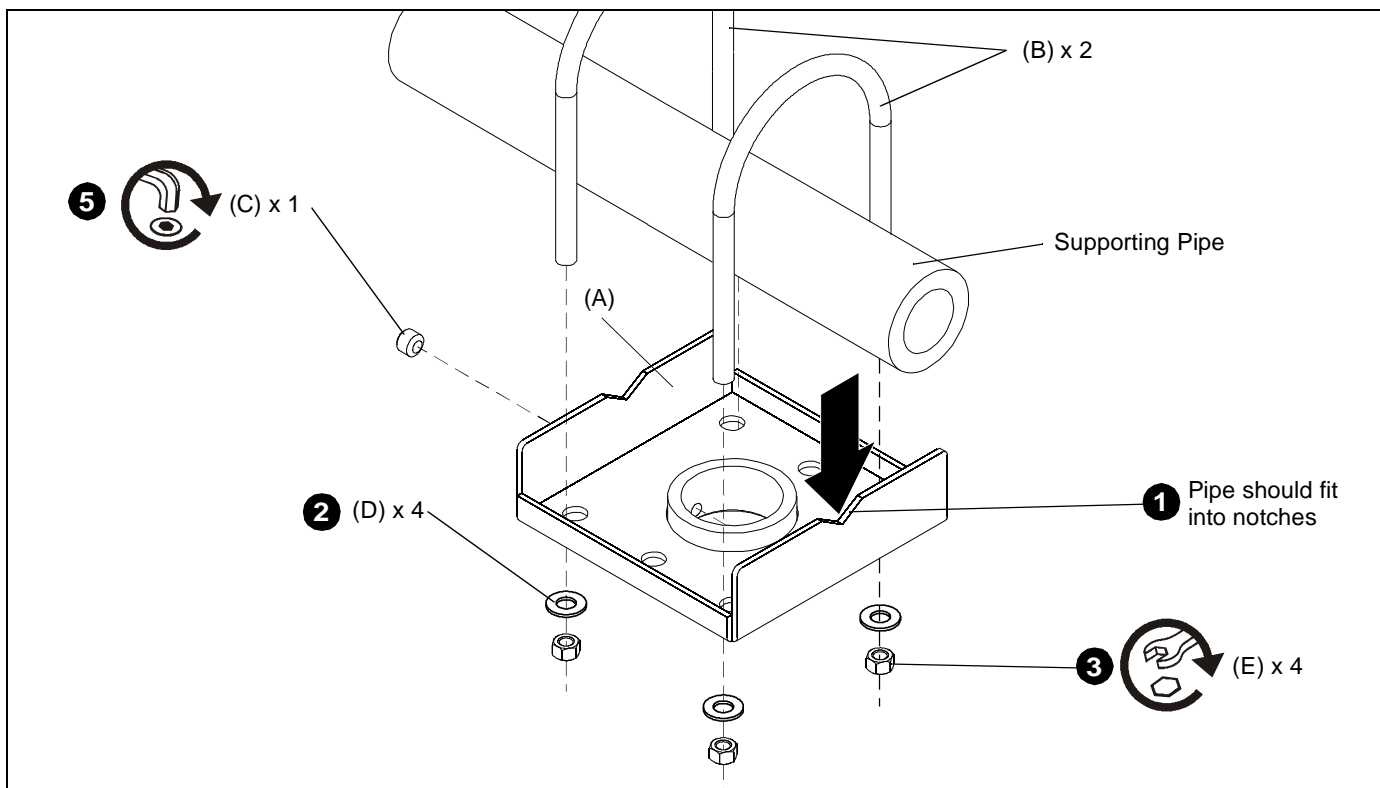

Figure 1
1. Place two U-bolts (B) over supporting truss or pipe and insert through holes in truss plate (A). (See Figure 1)
**NOTE:** If mounting truss plate (A) to pipe, ensure that pipe fits into notches in plate. (See Figure 1)
2. Loosely install 3/8" nuts (E) and 3/8" washers (D).
**NOTE:** The washers (D) are only used for temporary installation of the CMA365. Washers **MUST** be removed before permanent installation.
3. Level mount and tighten nuts (E).
5. Install and securely tighten set screw (C) using the 5/32" hex wrench (F).